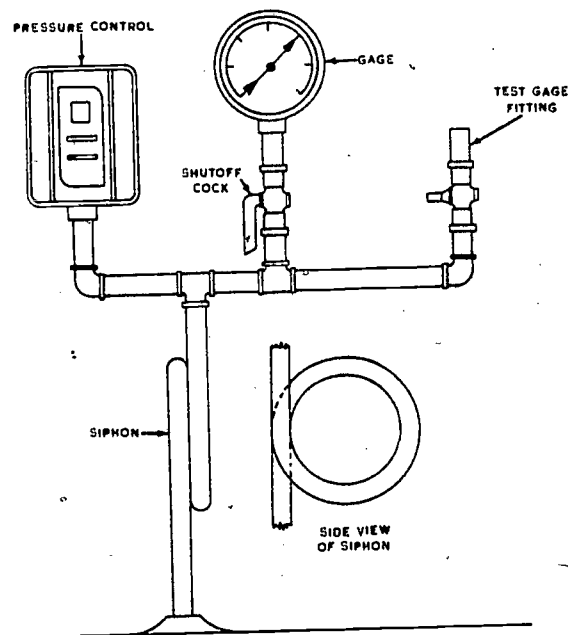

Figure 38. A typical steam gage installation.
41. **Steam gage.** The steam gage is located on top of the boiler, as illustrated in figure 38, and is used to indicate the pressure of steam in the boiler. It must be accurately calibrated and have a loop of tubing called a siphon loop between the boiler and gage. This prevents live steam from coming in direct contact with the gage mechanism and prevents damage to the gage. The steam gage is installed so that it cannot be shut off from the boiler except by a cock placed near the gage. This cock has a tee or lever handle which is parallel to the pipe in which it is located when the cock is open.
45. The pressure control can be mounted either on a tee along with the pressure gage on the pressure-gage tapping, as shown in figure 38, or it can be mounted on the low-water cutout provided by some manufacturers. In either case, be sure that the pipe dope is not permitted to enter the control. You apply the dope to the male threads, leaving the first two threads bare.